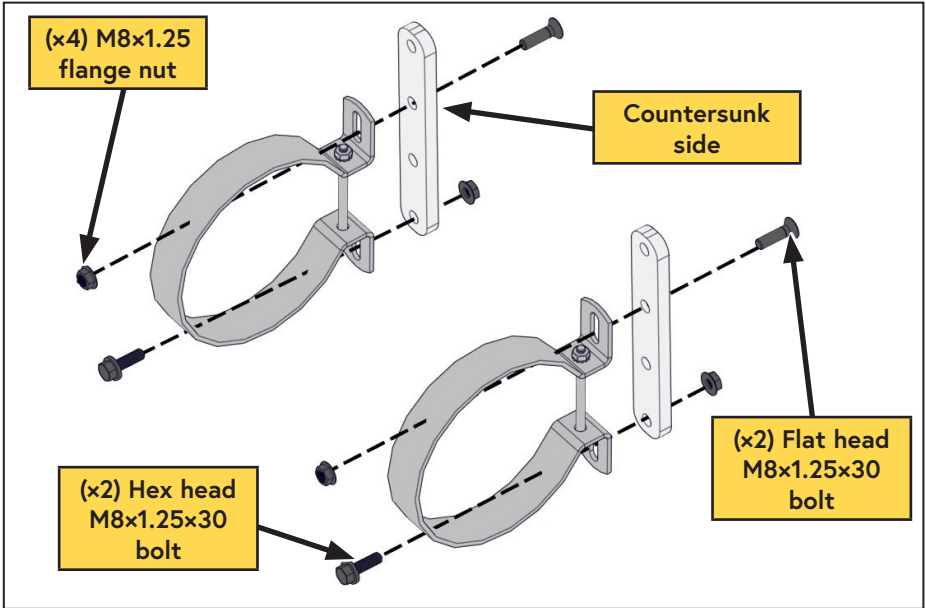

Figure 48 — Install AOST
- ☐ Install the tank clamps onto the drop brackets; leave the tank clamps loose to allow the tank to be slid into place (Figure 48).